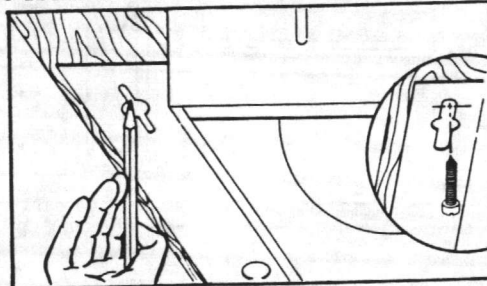

Figure 2
2. Trace Keyhole Slots - Hold unit against joists and trace keyhole slots in mounting brackets onto joists. Start wood screws provided in same end of all traced keyhole openings. Leave about 3/8" of screws projecting from joists. (Fig. 2)